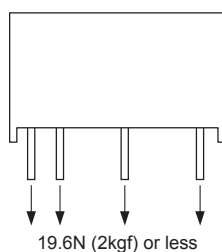

Fig.6.1 Stress onto Pins
- (1) Flow Soldering : 260°C 15 seconds or less
- (2) Soldering Iron : maximum 360°C 5 seconds or less
- Applying excessive stress to the input or output pins of the power module may damage internal connections. Avoid applying stress in excess of that shown in Fig. 6.1.